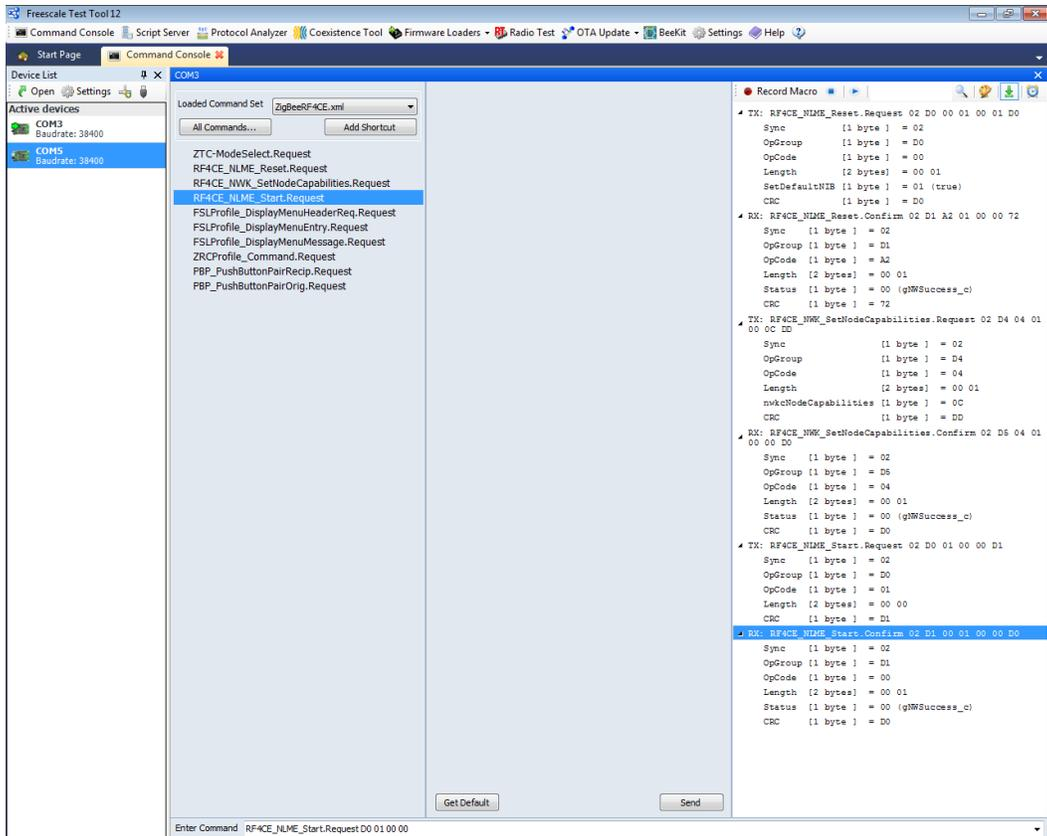

Figure 4-5. Configure and start the controller node
8. Select the first device from the list of active devices. Configure and start the node to act as a controller. For this, click on All Commands -> RF4CE layer command and send the following Test Tool RF4CE commands in the order shown in Figure 4-5:
- RF4CE_NLME_Start.Request command as shown in Figure 4-5.
Check if the status of the RF4CE_NLME_Start.Confirm message is successful (0x00) as shown in Figure 4-5.